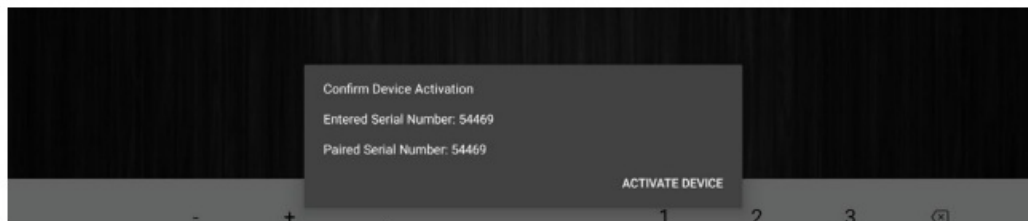

Figure 50
6. Finally, confirm the entered and paired serial numbers match and click Activate Device. (Figure 50)